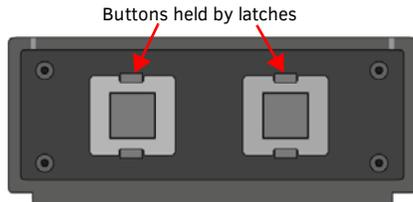

FIG. 7 EXPOSING BUTTONS
2. Lift off the PCB to expose the buttons latched into place in the housing (FIG. 7).